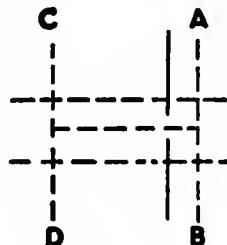

Fig. 166. Detail of the position of the buttonhole.
- G. Mark the locations of each buttonhole, using a small machine stitch, twenty stitches per inch exactly between two markings. This stitching must be on the straight of the goods with matching thread (Fig. 166).
- H. Mark by machine-basting or hand-basting  $\frac{1}{4}$  in. above and  $\frac{1}{4}$  in. below the location line. Extend 1 in. beyond the vertical lines (Fig. 166).